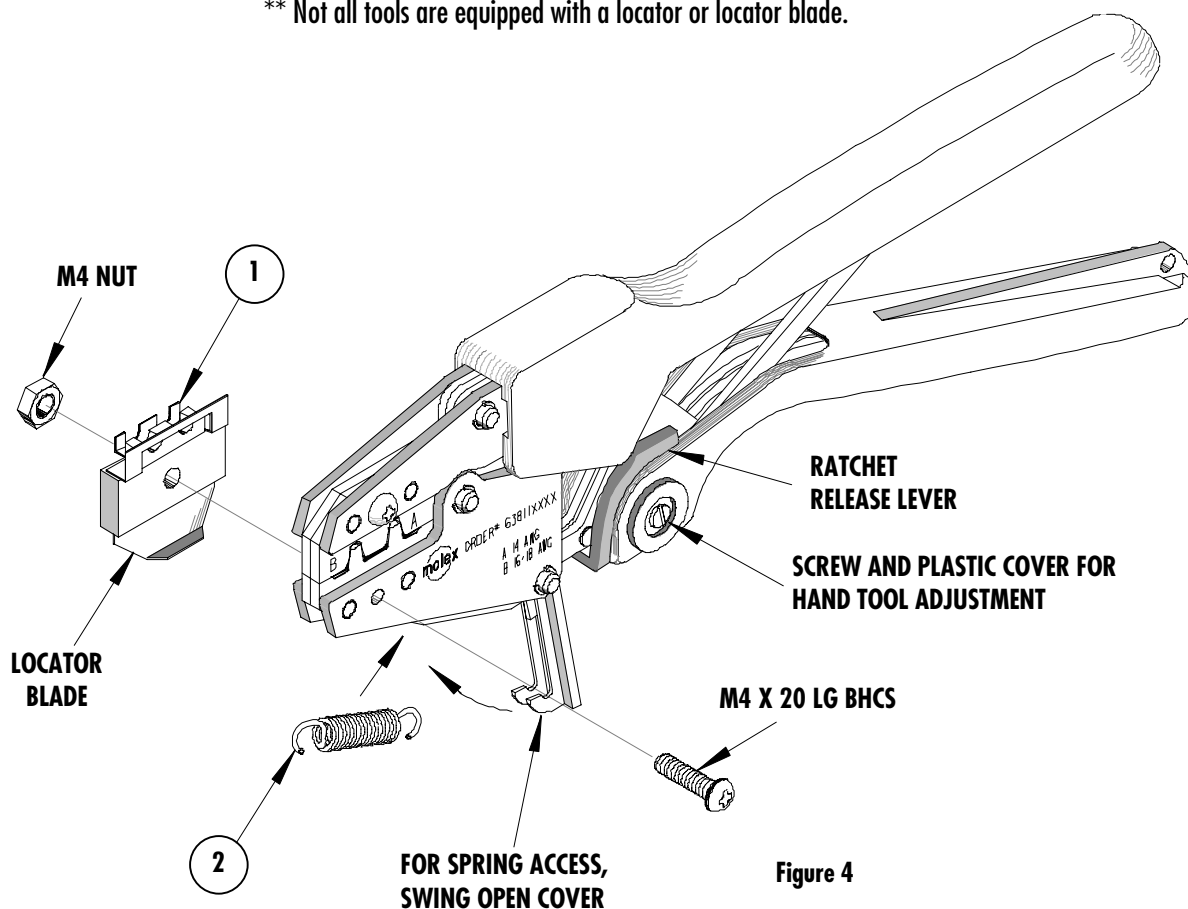

Figure 4
- Close the tool until the ratchet releases, (See Figure 4).
Should this tool ever become stuck or jammed in a partially closed position, **Do Not force the handles open or closed.** The tool will open easily by lifting the ratchet release lever (See Figure 4).
## How To Adjust Tool Crimp Force (See Figure 4)